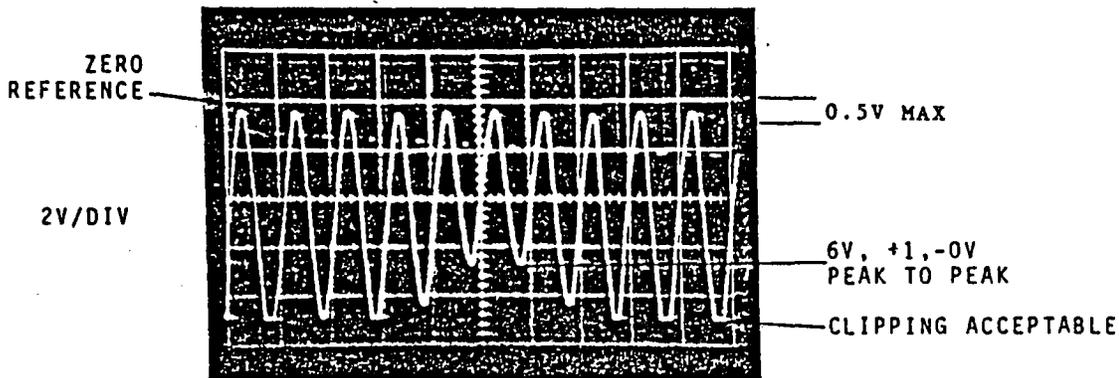

Figure 5-14. Reel Tachometer Sensor Output
6. Adjust the potentiometer R9 to set the shortest pulse in the display to  $6.0 \pm 1$  -0 volts peak-to-peak. See Figure 5-14. Slight clipping of the longest pulses is acceptable and may be ignored.